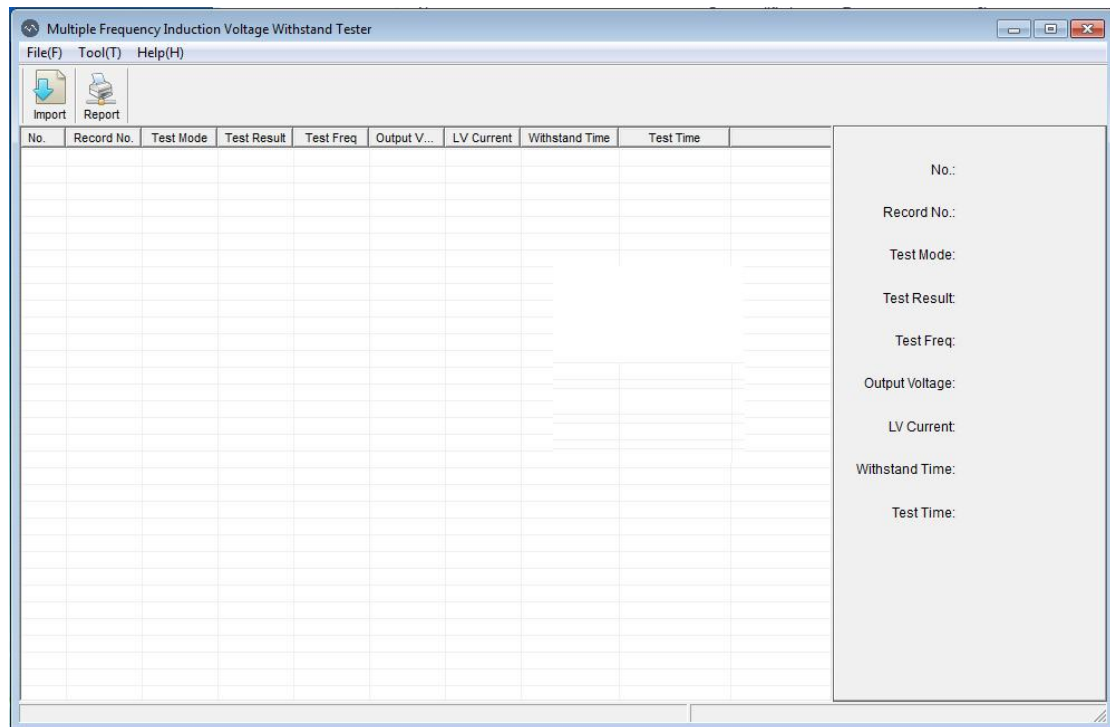

图23
1. Open the "upper computer software" folder in the U disk, you can see the software "DBP. Exe", open the software, and the operation interface of the matching upper computer software is shown in Figure 23.